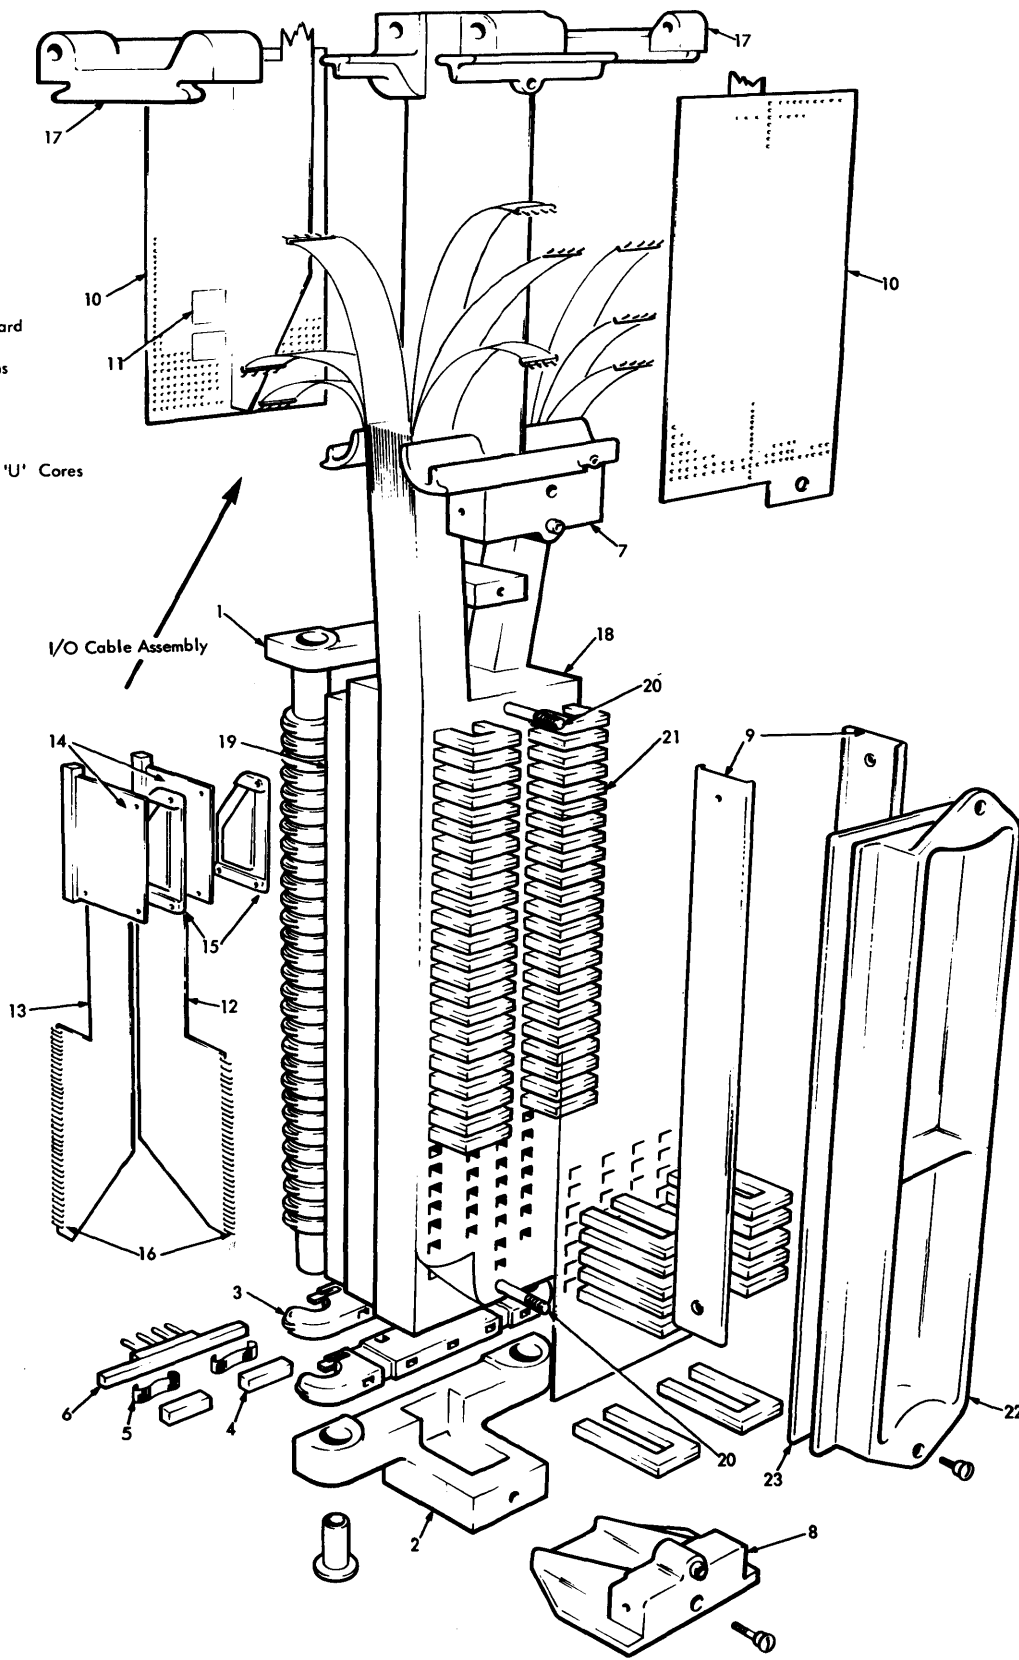

Figure 2-30 Exploded View of a TROS Module
Physical Construction of the Module. An exploded view of a module is shown in Figure 2-30. The tape deck (18) consists of 128 plastic tapes which carry